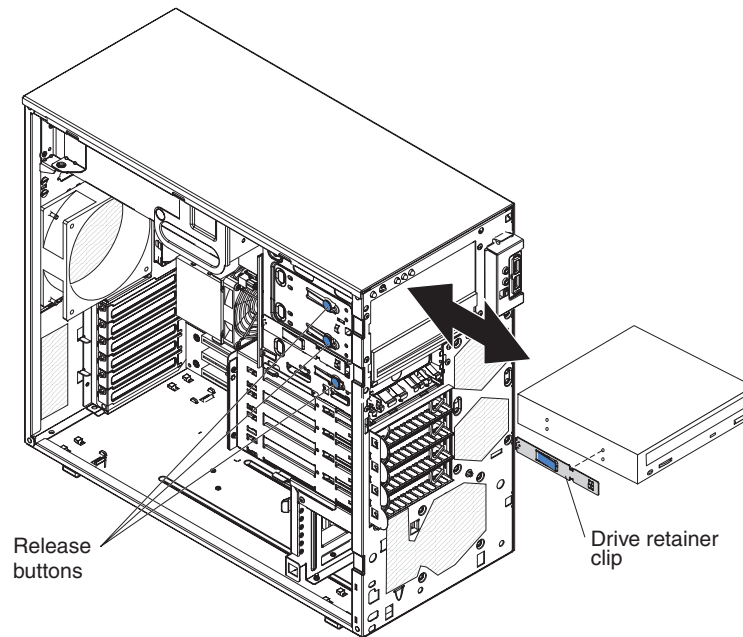

Figure 25. Removing a drive from bay 1, 2, or 3
6. To remove a drive from bay 1 or 2, release the drive from the bay by pressing the blue release button on the side of the bay (see Figure 25). Pull the drive out of the computer.